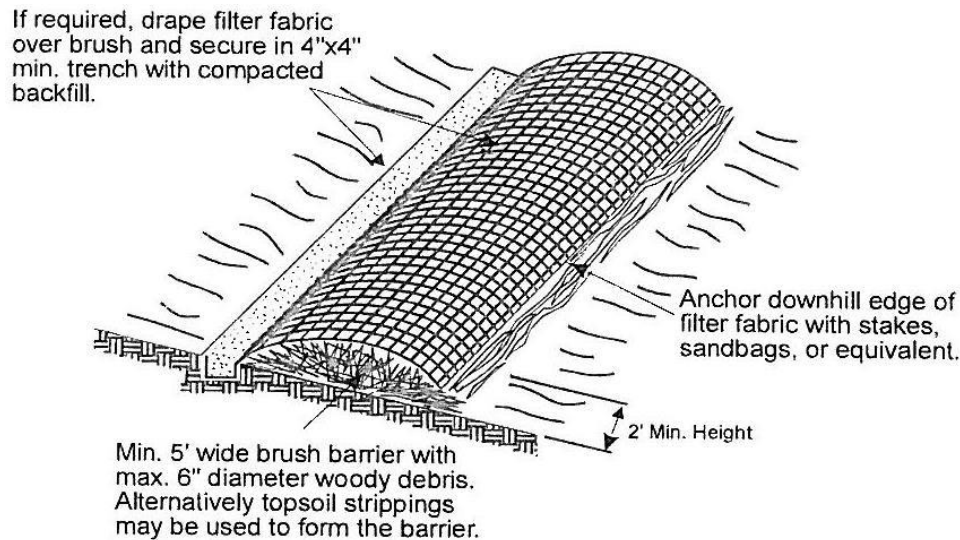

Figure 10. Schematic of brush barrier and specifications.
- A 100% biodegradable installation can be constructed using 10-ounce burlap held in place by wooden stakes for barriers that will be left in place. Figure 10 below depicts a typical brush barrier.